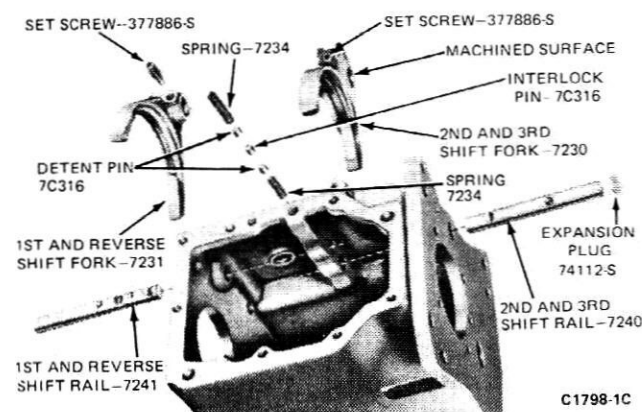

FIG. 9 Shift Rails and Forks Disassembled
3. Remove long spring that retains the detent pin in the case (Fig. 9). Remove the detent pin with a small magnet.
15. Tap on the inner end of the second- and third-speed shift rail to remove the expansion plug (Fig. 9) from the front of the case. Slide shift rail out of case.